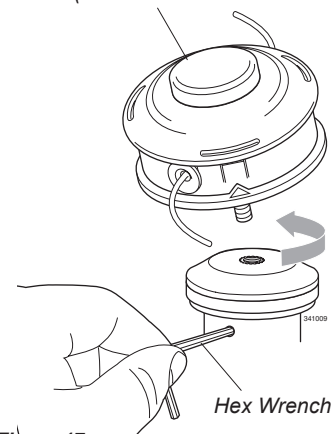

Figure 17
4. Using the hex wrench to secure Holder A, install and hand-tighten the trimmer head (counter-clockwise to install). See Figure 17.